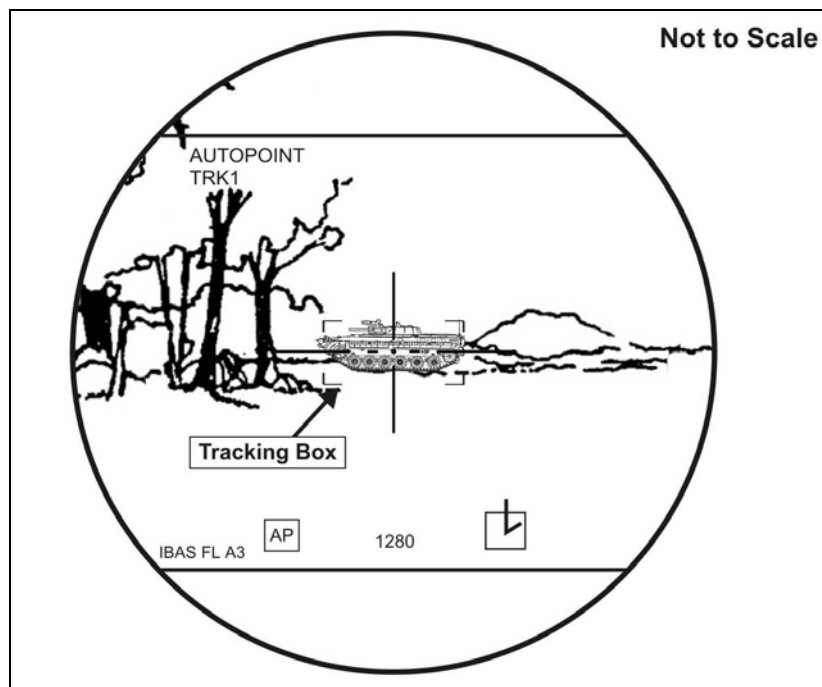

Figure 6-54. Bradley A3-aided target tracker.
c. With Day TV selected, ATT symbols overlay the video image (Figure 6-54). The BC or gunner uses the autopoint functions only with the 25-mm gun selected.
(1) To use track boxes with Day TV, leave both IBAS ballistic covers open.
(2) For targets beyond 3,000 meters, size gates in 2X and 4X zoom.